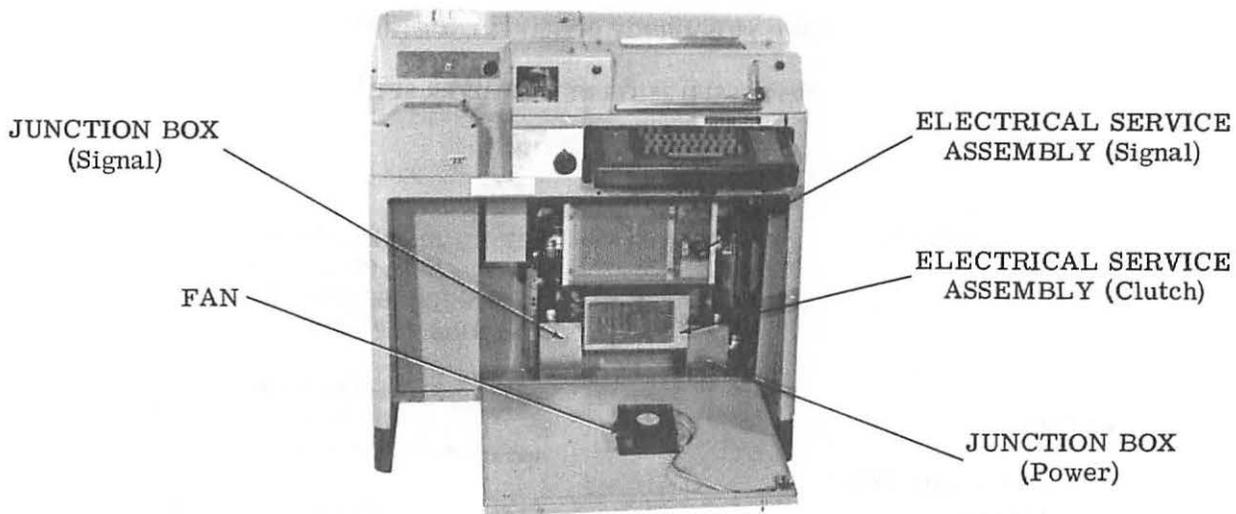

Figure 1 - Floor Model Automatic Send-Receive (ASR) Set
A. Floor Model Automatic Send-Receive (ASR) Set (Figure 1)